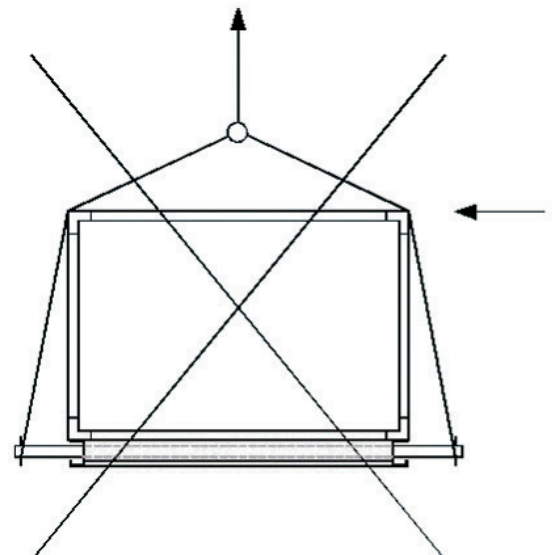

Figure 8
- Hoisting without spacer supports (Figure 8) is not allowed, as this may damage the housing.